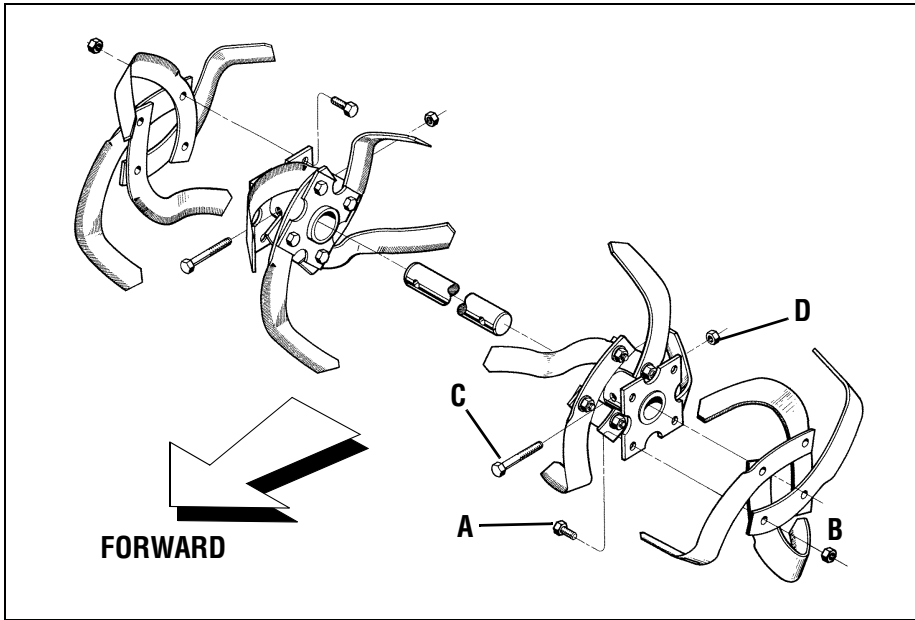

Figure 5-3: Install tines so that cutting edge of tines enter soil first when tiller moves forward.
1. With the engine shut off and the spark plug wire disconnected, remove the two screws (A, Figure 5-3) and nuts (B) that attach a single tine to a tine holder. If needed, use penetrating oil on the nuts.
2. If removing both tine assemblies, mark them “left” and “right” before removal. Remove the screw (C, Figure 5-3) and locknut (D) that secure the tine assembly to the tine shaft. If necessary, use a rubber mallet to tap the tine assembly outward off the shaft.